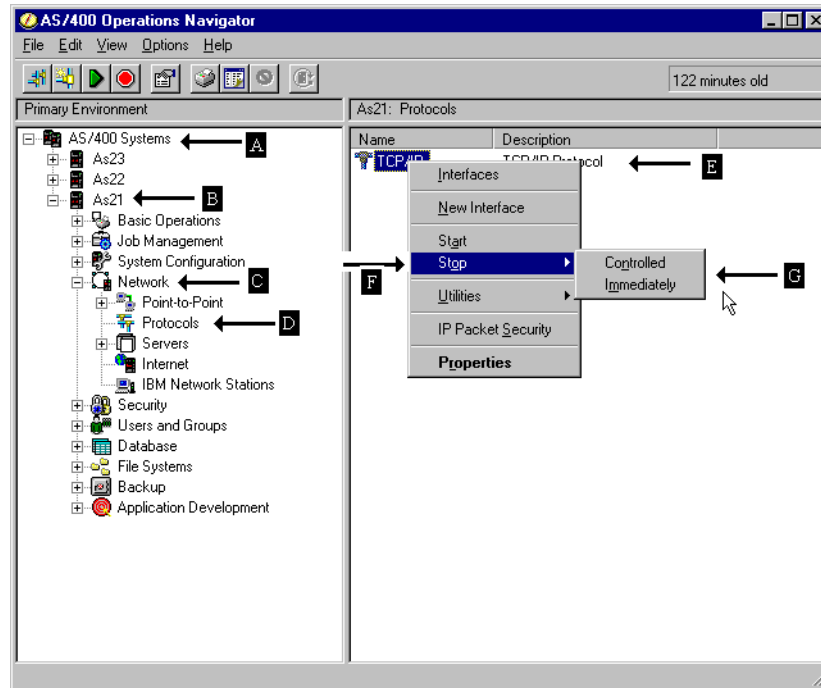

Figure 337. Stop TCP/IP
- a. Double-click the **AS/400 Systems** icon (A) in the Operations Navigator tree to give you a list of the AS/400 systems that you are configuring
- b. Double-click the AS/400 system you want to stop TCP/IP processing (B).
- c. Double-click **Network** (C).
- d. Double-click **Protocol** (D).
- e. Right-click **TCP/IP** to open a context menu (E).
2. Select **Stop** (F).
3. Select **Controlled** or **Immediately** (G). Figure 337 shows the Stop TCP/IP dialog.